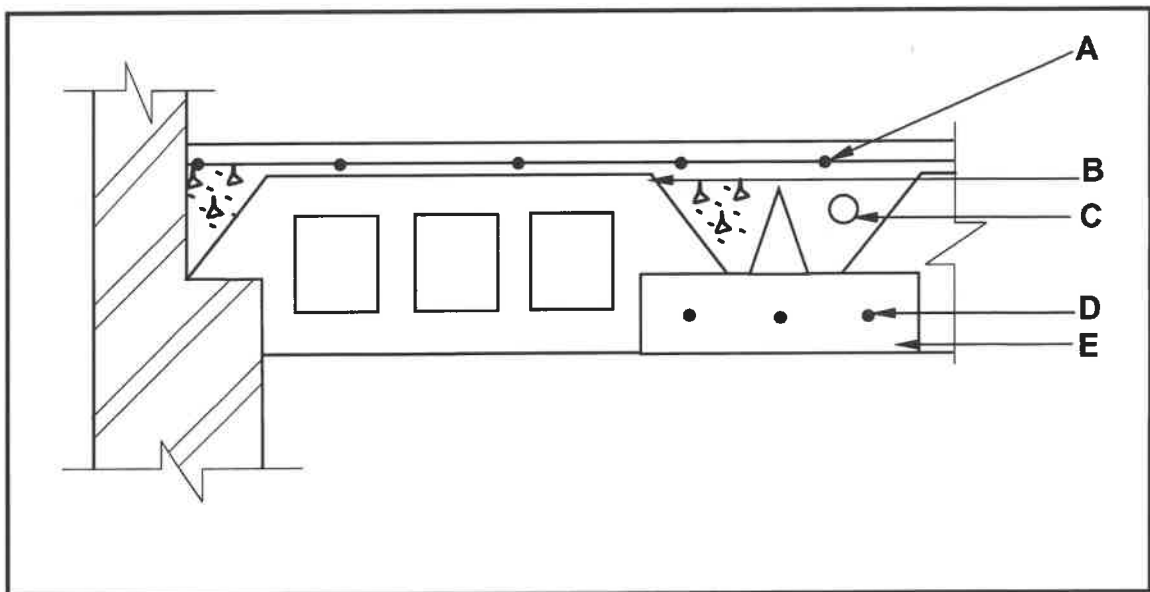

FIGURE 6.5
6.5 FIGURE 6.5 below shows a drawing of a rib and block floor.